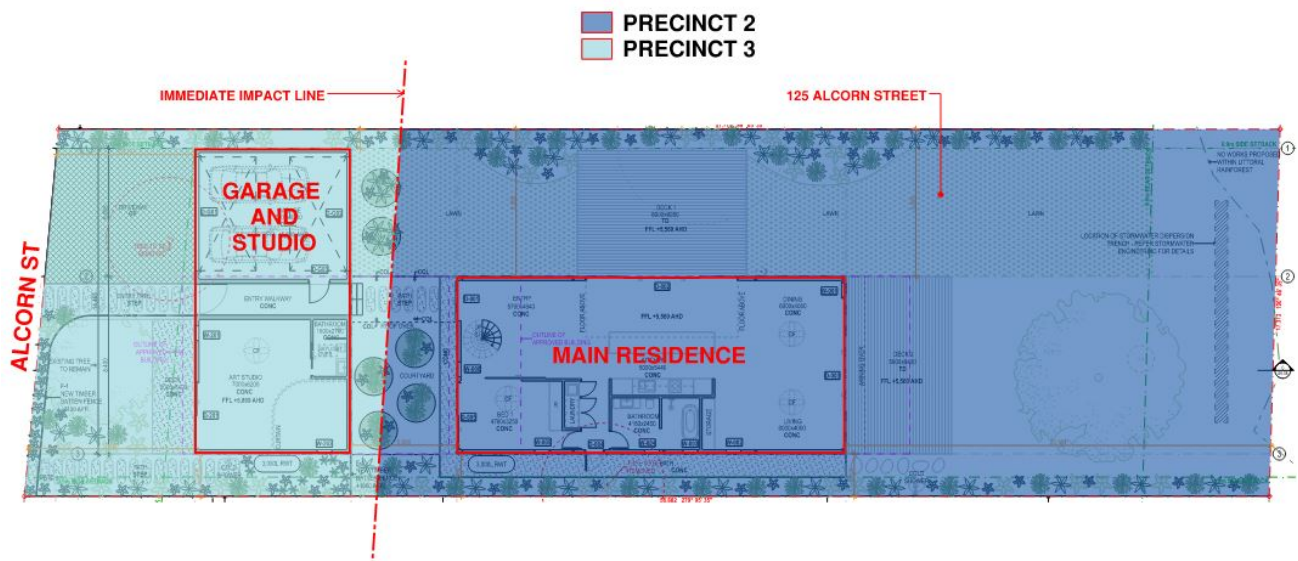

Figure 1 Proposed Site at 125 Alcorn Street, Suffolk Park
The dwelling consists of two components separated by a lightweight courtyard roof. There is a garage and studio structure located within 'Precinct 3', and main two-storey residence located within 'Precinct 2' (refer fig. 1). The garage and studio are located in-front of the main house on Alcorn Street, creating difficulty in the removal of the main house first, when the precinct 2 impact line is triggered. It has therefore been proposed in this report that both buildings are to be treated solely as to fall within precinct 2 hazard zones. Subsequently, the removal of the two structures will be in accordance with J2.2 of the Byron Development Control Plan 2010.
The main structure is located outside the 20-metre erosion escarpment line and sits within 'Precinct 2', with the garage and studio located within 'Precinct 3', in accordance with part J of the Byron Development Control Plan 2010. For precinct positions see fig. 1 and refer Those Architects drawings, job no 21011 dated 18/12/2023.
- b. Access is from the front of the property on Alcorn Street, the vehicles will approach from the south. See fig 1.